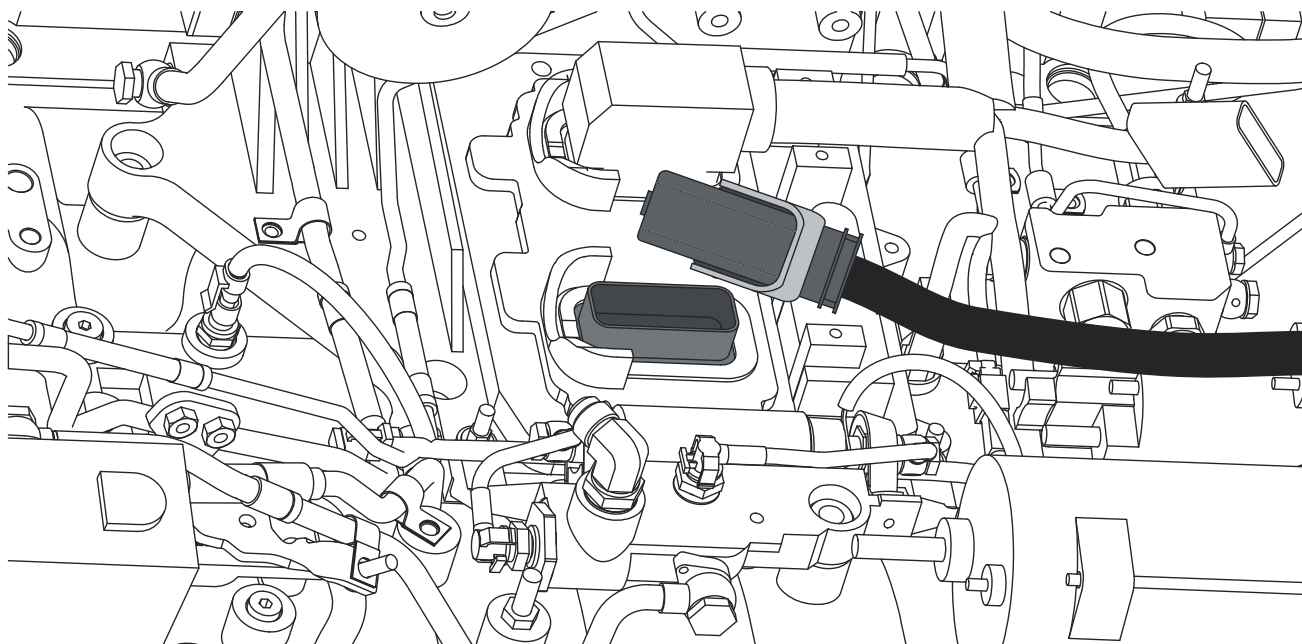

Figure 5-1-2 Disconnect ECM(Electronic Control Module)
- Disconnect ECM (Electronic Control Module). The ECM connector is located on the engine, right side of Logstacker (See Figure 5-1-2).